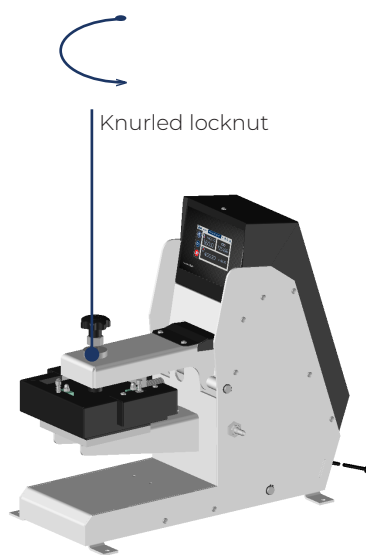

Figure 1
1. Loosen the locknut as shown in Figure 1.